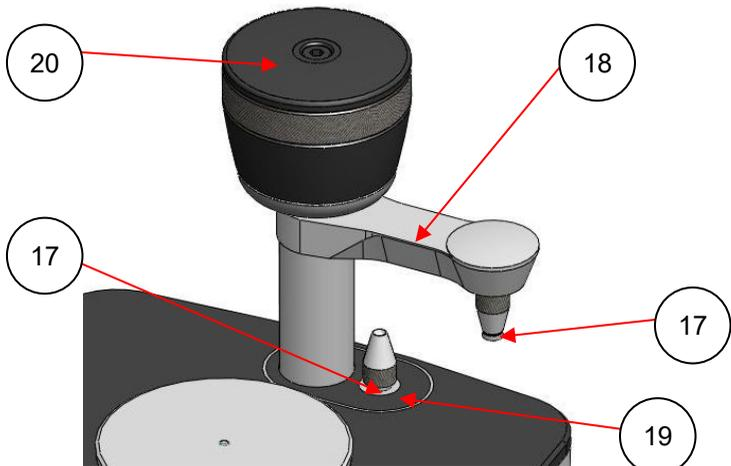

Figure 8-3: Anvil in Clamp Anvil Arm Assembly and in Storage Port
- 17) Flat or Pellet Anvil (Figure 8-3).
- 18) Clamp arm assembly (Figure 8-3-figure 8-3).
- 19) Anvil storage port (Figure 8-3-figure 8-3).
- 20) Torque screw knob (Figure 8-3).
Both anvils have a threaded screw fitting for attachment to the clamp arm assembly (18). The anvil which is not in use can be stored in the threaded location port (19), in Figure 8-3.